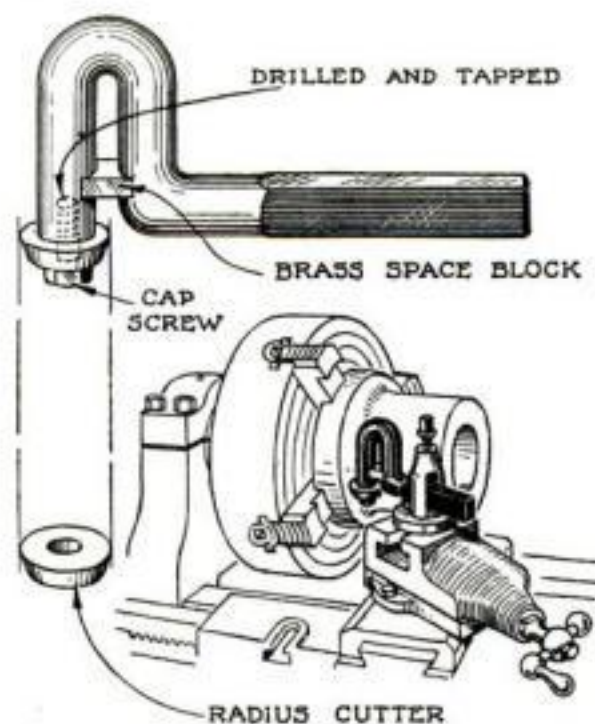

Fig. 5. Fillet cutter and gooseneck holder, and how they are used in machining radii.
**B**ESIDES making it possible to machine fillets without the usual chattering of the tool and the resulting rough finish, the gooseneck fillet cutter illustrated in Fig. 5 has a circular cutter bit that can be revolved in order to bring a new section of the edge into operation when one section becomes dull.